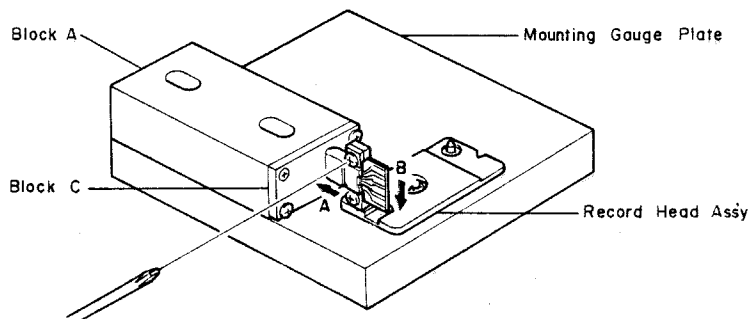

Fig. 4.22
- (5) Remove the Block B from the Mounting Gauge Plate.
- (6) As shown in Fig. 4.22, mount the R-8L record head assembly onto the Mounting Gauge Plate, then check the location of the R-8L record head surface. (If record head contacts to the Block C, loosen 2 pcs. of screws that assembled record head and R-8L record head assembly, then place the R-8L record head assembly onto the Plate.)
- (7) Remove the R-8L record head assembly from the Mounting Gauge Plate.
(8) Readjustment of Record Head Mounting Gauge M-9048 (DA09048A)
- (9) Remove the Block B from the Mounting Gauge Plate.
- (10) Mount the R-8L record head assembly onto the Mounting Gauge Plate.
- (11) As shown in the Fig. 4.22, loosen the R-8L record head with 2 pcs. of screws onto the record head plate. As the location of the Block A is secured by the item (8)-(c), push the record head to the directions A and B, then tighten 2 pcs. of screws.
- (12) Check to insure freedom from gap between the Block C and record head surface, then tighten the 2 pcs. of screws on the record head plate with lock tight paint.
- (13) Assemble the record head assembly to the head mount base assembly.
- (14) Assemble the head mount base assembly to the mechanism assembly.
- (15) Check the record head stroke.